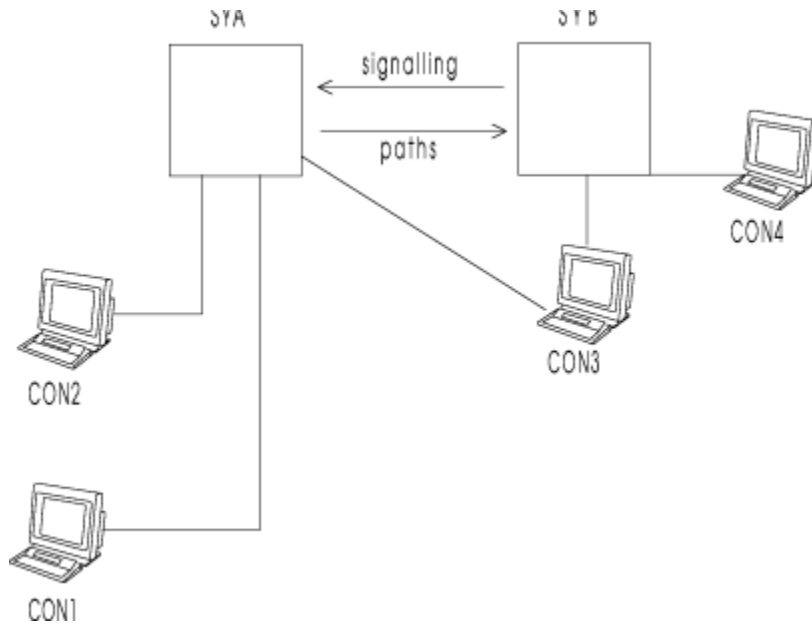
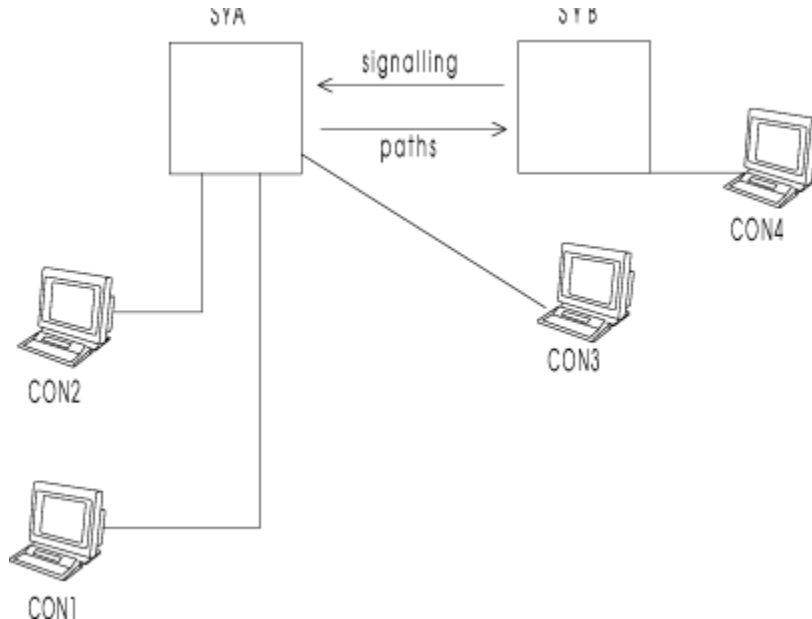

Figure 3. Console Configuration in a Sysplex with Two Systems and Four MCS Consoles
Figure 4. Console Configuration in a Sysplex with Two Systems and Four MCS Consoles
In Figure 3 on page 25, systems SYA and SYB share the same CONSOLxx member. SYA has three physically attached consoles (CON1, CON2, and CON3); SYB has two physically attached consoles (CON3 and CON4).
- A console can be active on only one system at a time. In Figure 3 on page 25, CON3 is physically attached to both SYA and SYB. Without specifying SYSTEM(SYB) for CON3, CON3 would become active on either SYA or SYB, whichever system joins the sysplex first. Specifying SYSTEM(SYB) ensures that CON3 is activated only on SYB.
You can define separate CONSOLxx members for each system in the sysplex. Like Figure 3 on page 25, Figure 4 on page 26, shows SYA with three physically attached consoles (CON1, CON2, and CON3) and SYB with one physically attached console (CON4). Console statements are defined in two CONSOLxx members, one for each system in the sysplex.